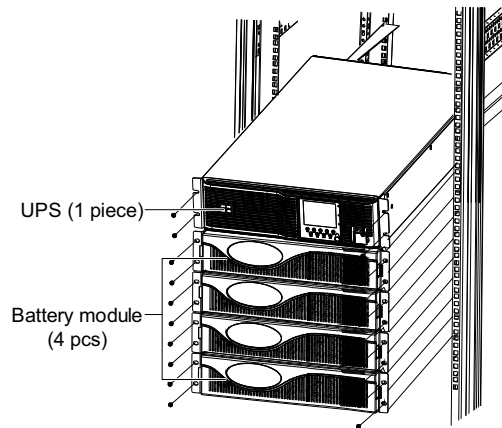

Figure 2-5 UPS installation diagram of battery modules included
- First install the battery module, then start the installation from the bottom, and place the UPS onto the top, as shown in Figure 2-5